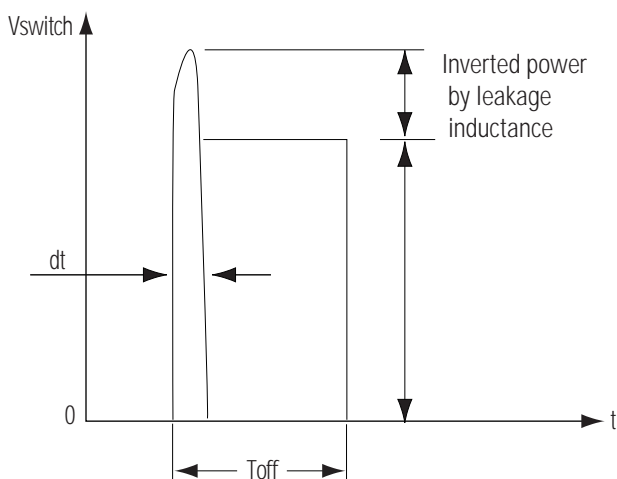

Fig. 6-7
- 2) PE3 : Smooth the voltage converted to DC(Refer to VIN of Fig. 6-7)
- ❶ Rush current = (AC input voltage x 1.414 - Diode drop voltage) / Pattern resistance + PL02,01 resistance + PC10 resistance + PR10) (AC230V based : approx. 26A)
- ❷ Without PR10, the bridge diode might be damaged as the rush current increases.